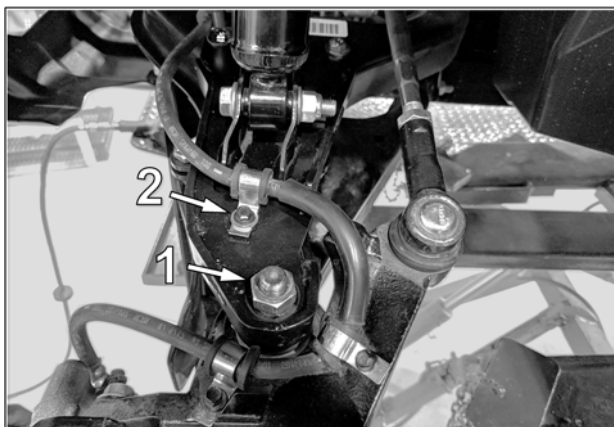

Fig. 14
8. Re-install ball joint nut (1) and torque as per manufacturer's specification. Flip brake hose clamp around 180° and re-install hose clamp bolt (2). See Fig. 14